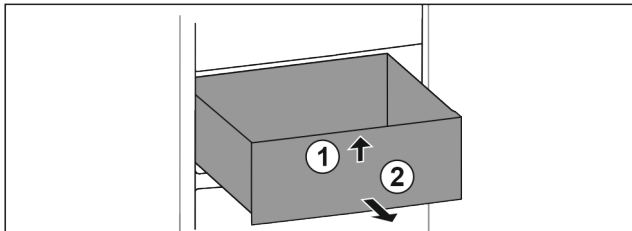

Fig. 63
- Lift drawer at the front. Fig. 63 (1)
- Remove drawer to the front. Fig. 63 (2)